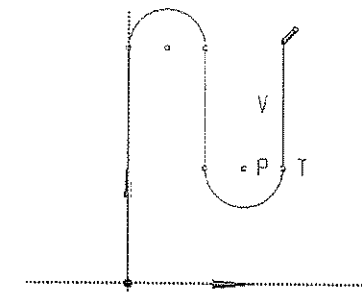

Figure 3-67 Specifying the endpoint of the line 3
24. Move the cursor upward to some distance. While moving the cursor, the symbol of Vertical constraint (V) is displayed along with the preview of the line. Click to specify the end point of line 3, as shown in Figure 3-67.